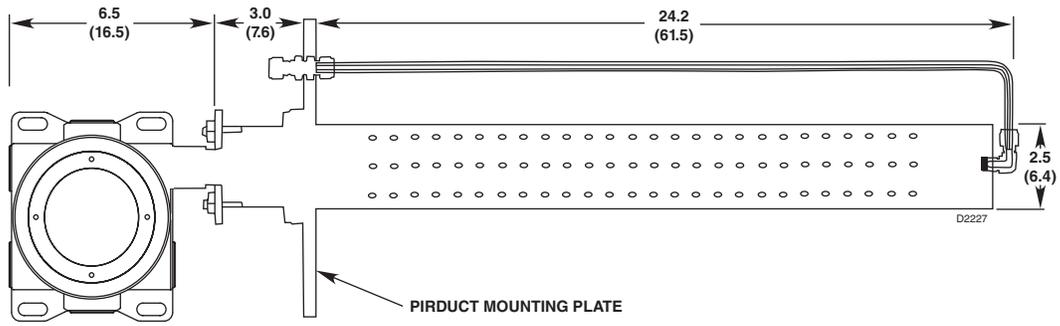
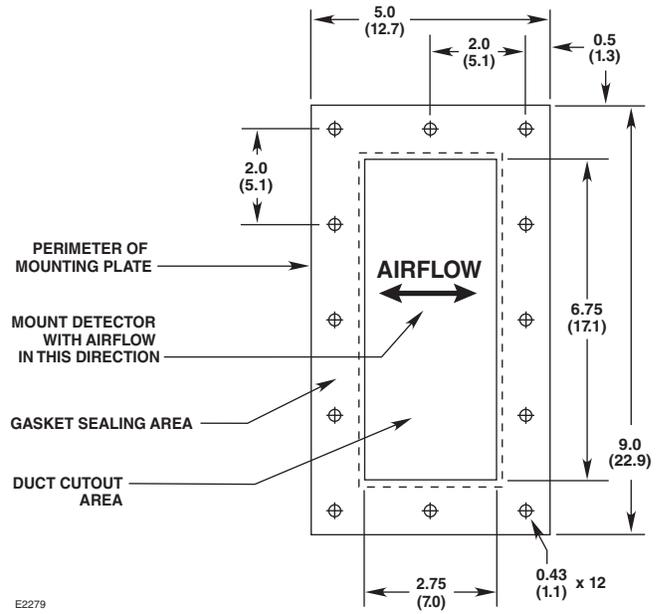

Figure 3—Dimensions of PIRDUCT in Inches (cm)
Figure 5—Dimensions of PIRDUCT Mounting Plate in Inches (cm)
See Figure 3 for dimensions of the PIRDUCT and Figure 4 for dimensions of the Termination Box. See Figure 5 for dimensions of the mounting plate.
- When the proper mounting location has been identified, mark and drill the PIRDUCT assembly mounting holes in the proper pattern. Refer to Figure 5 for the mounting hole pattern dimensions.